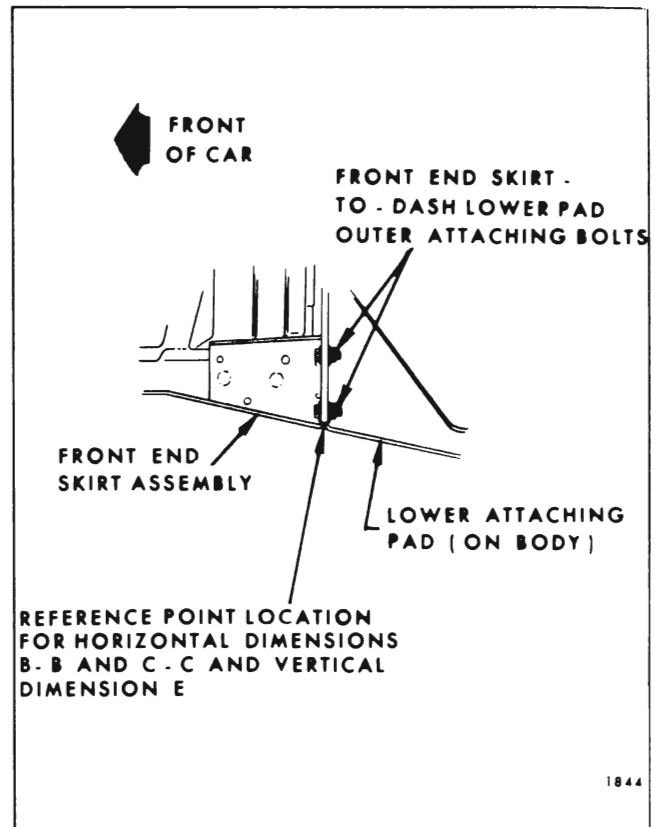

Fig. 3-12—Front End Skirt-to-Dash Lower Attaching Pad
of outer holes in attaching pad (See Fig. 3-12) to gage hole in lower flange of rear spring front support on opposite side of body.
- CC 70-5/32 Front face of dash lower attaching pad directly under centerline of outer holes in attaching pad (See Fig. 3-12) to gage hole in lower flange of rear spring front support on same side of body.
- d 9-11/32 Joint of front end skirt assembly and dash lower attaching pad on line even with bottom surface of both members (See Fig. 3-12).